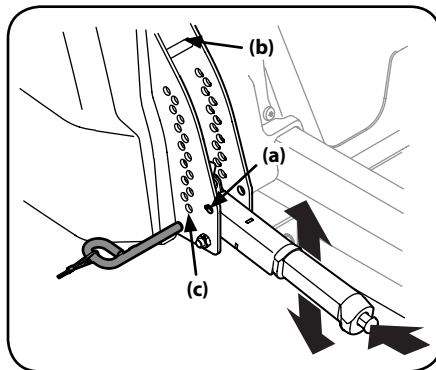

Figure 4-14
- a. Using the deck lift handle, raise the deck to the DECK REMOVAL/INSTALLATION POSITION (a). See Figure 4-14.
- d. Lower the deck into the DECK REMOVAL/INSTALLATION POSITION (a) using the deck lift handle. See Figure 4-14.
- e. Lower the deck into the **DECK REMOVAL/INSTALLATION POSITION (a)** using the deck lift handle. See Figure 4-14.
1. Place the deck lift handle in the highest mowing position (b). See Figure 4-14.